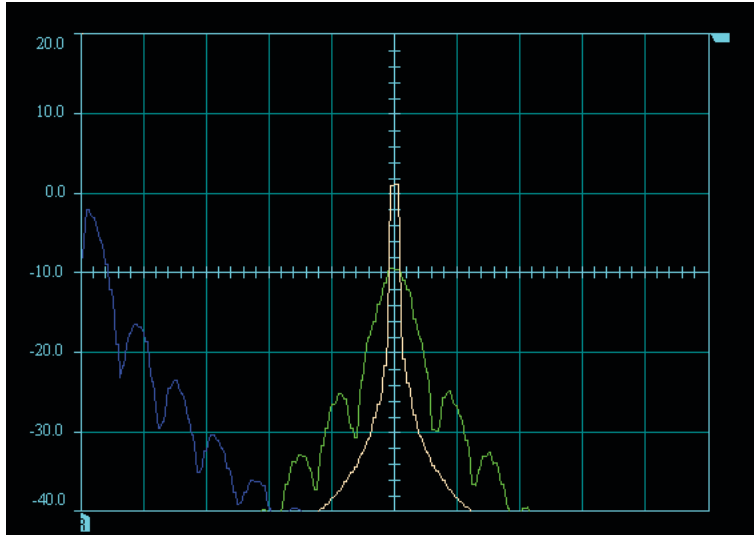

Figure 20. Frequency spectrum of four-level data signal, carrier and mixer output signal.
19. Use the Spectrum Analyzer to observe the frequency spectrum of the carrier, the baseband four-level data signal, and the mixer output signal (see Figure 20). Explain the relationship between the frequency spectra of these signals.